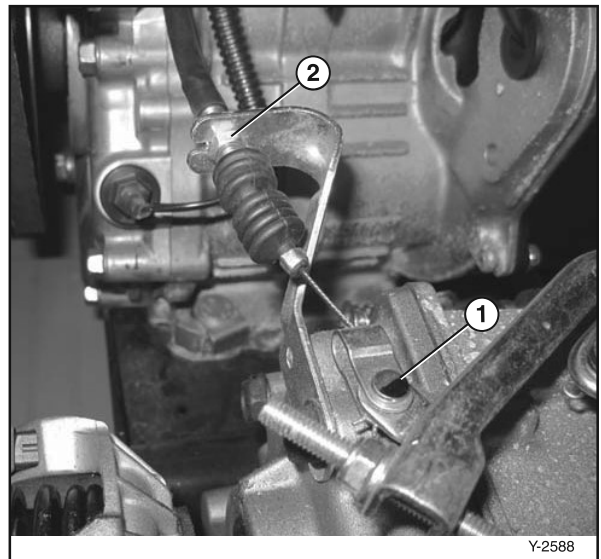

Figure 6-68
16. Remove the clevis pin (**Figure 6-68, (1)**) and disconnect the throttle cable.
17. Loosen the jam nuts (**Figure 6-68, (2)**) and remove the throttle cable from the bracket.